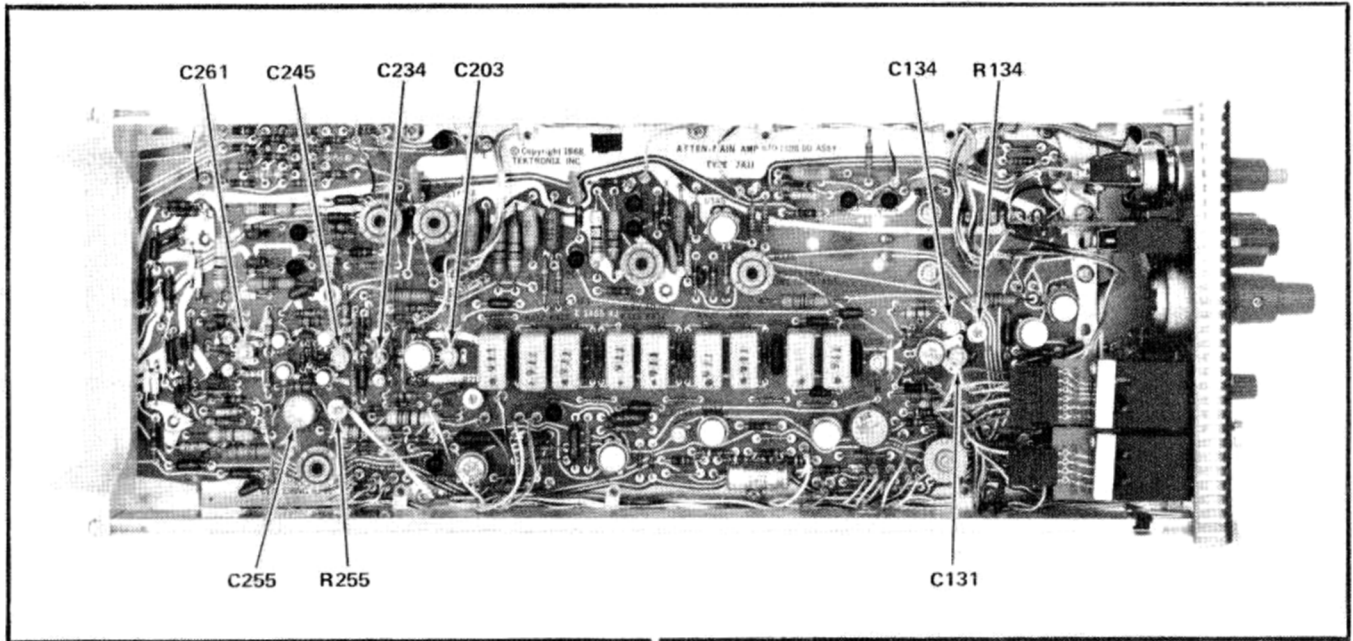

Fig. 5-12. Adjustment locations for step 12.
(1) Within the Plug-In Extender (item 10), disconnect the bottom connector on the left and on the right side. Connect the left and right side male connector to the Channel A and B inputs of the 3S1, respectively, using 2 ns cables (item 17) and GR-to-BNC female adapters (item 19).
(2) Connect the 7A11 to the Extender and install the Extender in the Oscilloscope vertical plug-in compartment.
(3) Connect the 7A11 Probe through the 50 Ω Termination/Adapter and a 5X GR Attenuator to the + Output Connector of the Type 106 Square Wave Generator.
(4) Select FULL Bandwidth at the 7A11.
(5) Switch the 3S1 Channel A and Channel B mVolts/Div controls to 50 mV.
(6) Adjust the Type 106 Square Wave Generator + Transition Amplitude as necessary to obtain a 5 division display on the Sampling System CRT. (7A11 at 10 mV/Div.) Use the 7A11 POSITION control to center the display.
(7) Perform the adjustments listed in Table 5-6, obtaining an optimum square top-left corner and flat top on the waveform. Adjustment locations are shown in Fig. 5-12.
*The step function must appear in the same area of the CRT as the waveform against which it is being compared. If the 7A11 display is not essentially the same as the Calibration Fixture display, re-adjust C255 and R255 to make it the same. However, if re-adjustment is done, the waveform must again be compared against the Sampling System reference waveform, as in step 12-e (2), (5), (6), (8) and (9). When C245 and R245 are properly adjusted, the step function observed on the Sampling System CRT will duplicate the mean trace shape of the reference waveform drawn on the Sampling System CRT, and the step function observed on the 7000-Series Oscilloscope will duplicate the Calibration Fixture step function. Inability to meet this requirement indicates dissimilarity between the square waves provided by the Type 106 and the Calibration Fixture, a situation which should not exist in properly calibrated test equipment.*
(15) RE-ADJUST—C255 and R255 (Fig. 5-12) as necessary to make the 7A11 display as nearly like the Calibration Fixture display as possible. Do not change any other transient response adjustment settings. (Re-check the step function through the Sampling System if re-adjustment is done.)